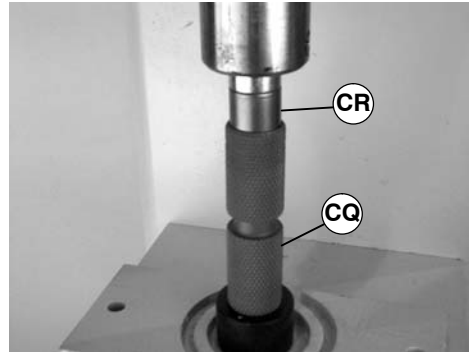

Figure 55
4. Press bearing (CR of Figure 55) into pulley (CQ) until seated.